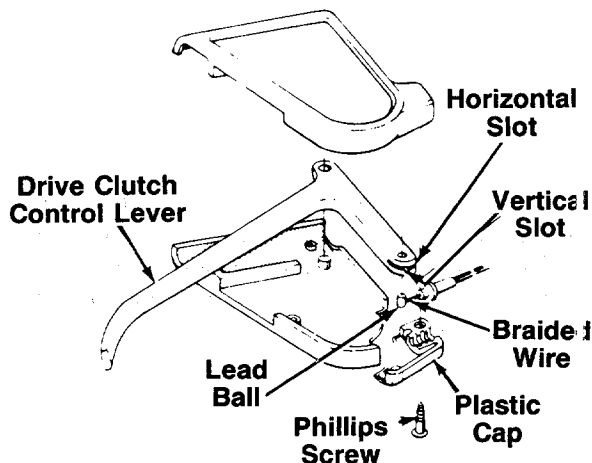

FIGURE 7.
2. Slide the braided wire around in the horizontal slot. See figure 7.
4. Secure the plastic cap to the clutch control housing using the two Phillips head screws. See figure 7.